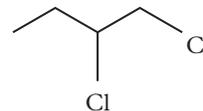

FIGURE 3 Organic structure of compound.
- ★ 22 **Interpret** the structure in Figure 3 to identify the reactants used to form this compound.